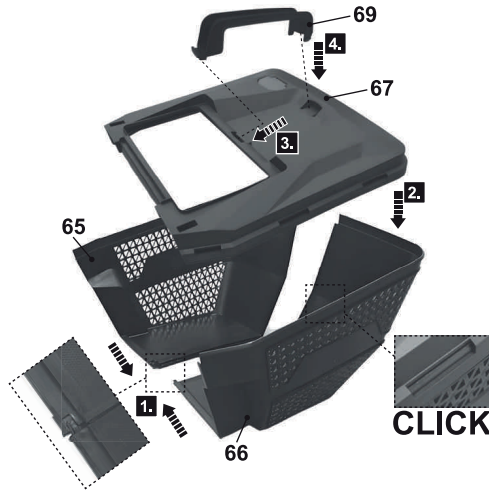

Fig. 19
2. Press the two parts of the grass box (65, 66) together and ensure they are properly engaged (Fig. 19, step 1).
3. Press the top cover (67) on the grass box assembly until a click sound is heard (Fig. 19, step 2). Ensure that the strip of grass box assembly is properly engaged in the groove of the top cover (67).
4. Assemble the carry handle (69) into the two assembling slots on the top cover (67), paying attention to the correct orientation (Fig. 19, steps 3, 4). Ensure that the carry handle (69) is firmly in place before use.